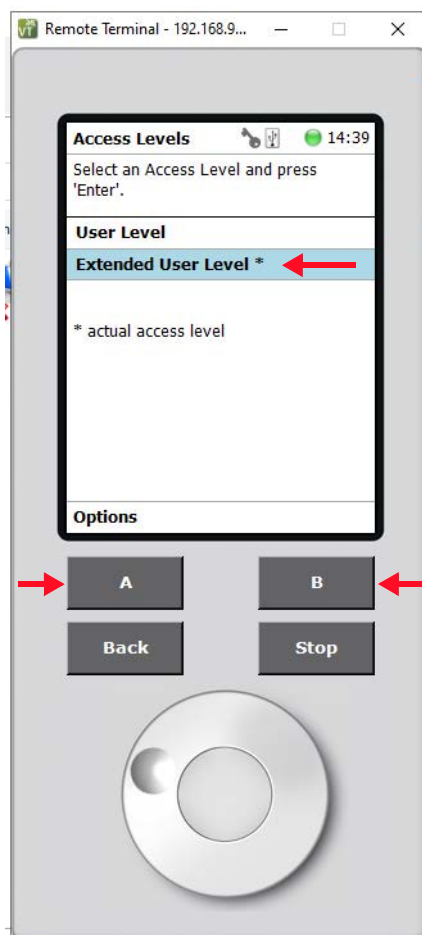

Figure 5-17. Selecting Extended User Level
15. On the lab connected computer, select **Extended User Level**. See Figure 5-17.